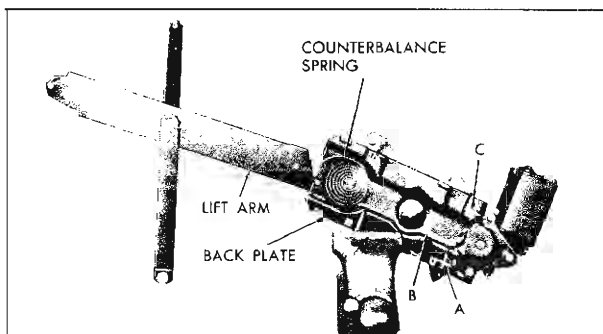

Fig. 14-23 Back Door Electric Window Regulator
2. Place regulator and motor assembly in a vise (Fig. 14-23). Drill a  $\frac{1}{4}$ " hole through back plate and sector at location indicated at either "A", "B", or "C" (Fig. 14-23) depending on position of lift arm.
4. Remove motor attaching bolts (Fig. 14-23) and remove motor from regulator.